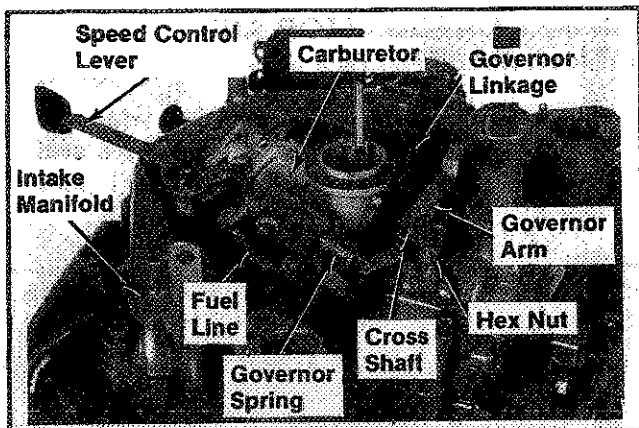

Figure 11-48. Installing Intake Manifold, Carburetor, And Governor Arm.
5. Install the fuel line and hose clamp to fuel pump outlet. Refer to Figure 11-48.